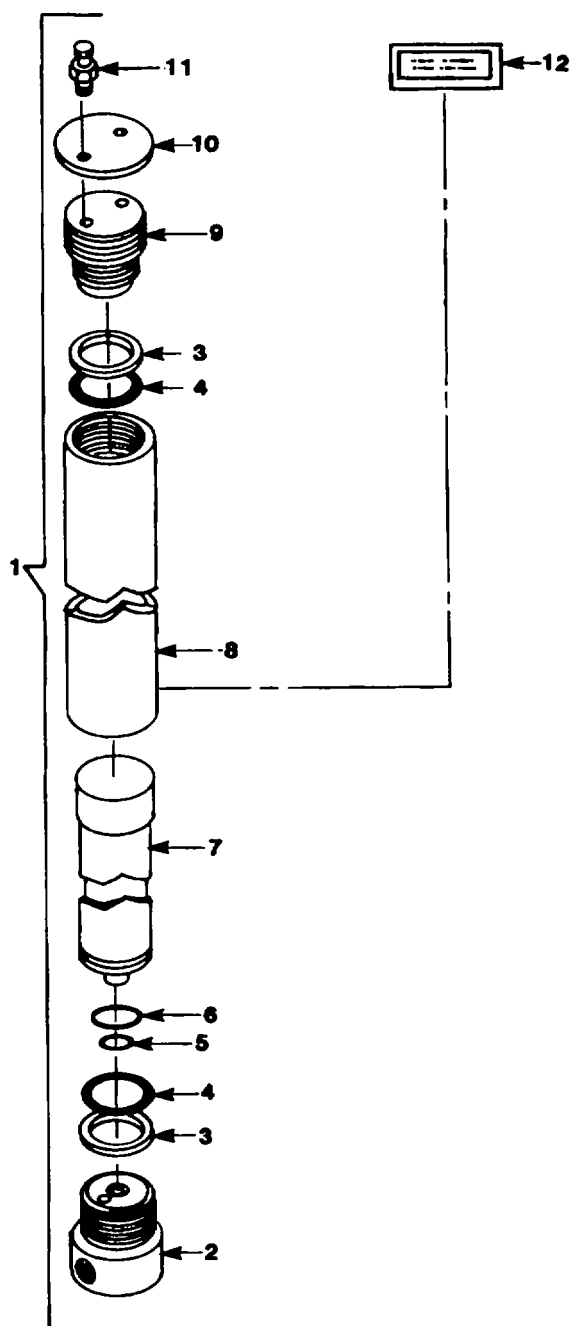

Figure 4-71. Purifier Chamber
- a. Removal (figure 4-71).
1. Using Securus wrench, unscrew chamber caps (9).
2. Remove and discard filter (7).